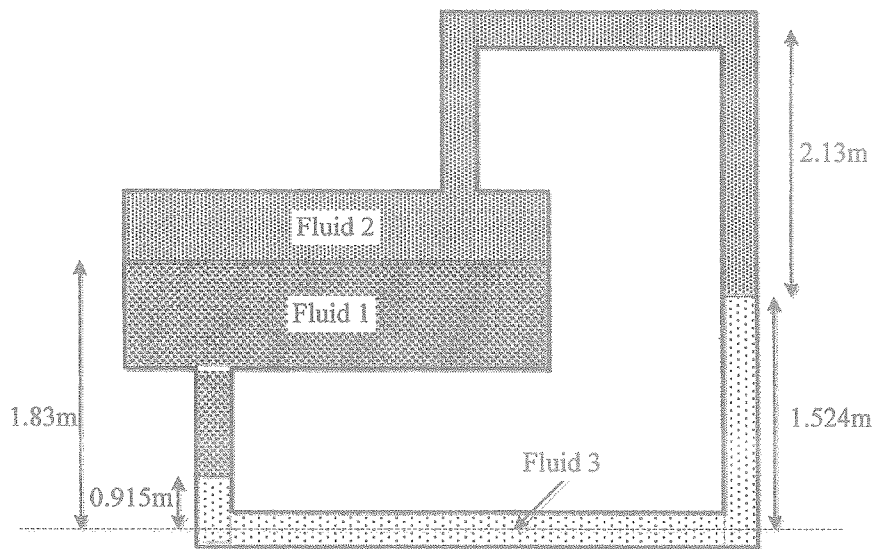

Figure Q1a
- Q1. a) A manometer is connected to a closed tank filled with three different types of fluids as shown in Figure Q1a. Determine the density of Fluid 3.